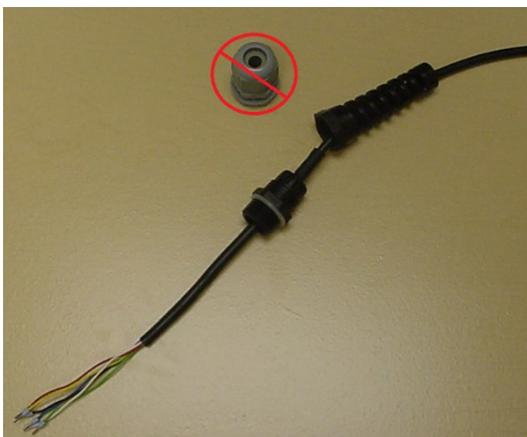

Figure 2
- b) Remove the Cable Gland supplied with the Safety Interlock Cable and replace with the cable gland supplied with the Banner AC Interface Box. Do not tighten at this point. Refer to Figure 2.